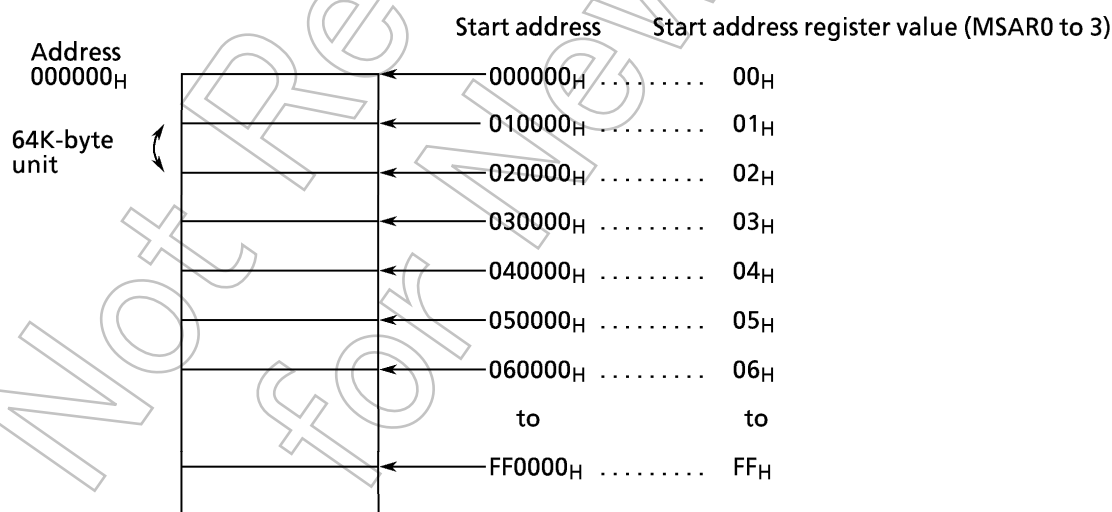

Figure 3.6 (8) Where to Set Start Address
As shown in the address decoder block diagram (Figures 3.6 (3) to (5)), $\overline{CS0}$, $\overline{CS1}$, or $\overline{CS2}/\overline{CS3}$ can specify the address area for which the chip select signal can be output depending on whether to compare the addresses A8 to A20, A8 to A21, or A15 to A22 respectively.